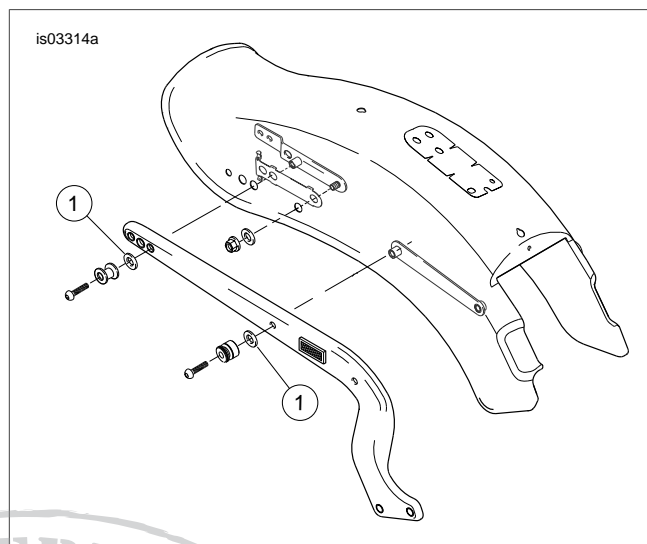

Figure 5. FLSTF: Add Washers Between Docking Points and Fender Covers
6. To remove the sissy bar and sideplate as an assembly, press to release the rotary latches (7) on each side and pull the latch levers back. Carefully lift the rear of the sideplates up and pull the sissy bar assembly out of the front docking points.
7. See Figure 5. For 2007-Later FLSTF models only: Insert washers (item 3 in table 1) between front and rear docking